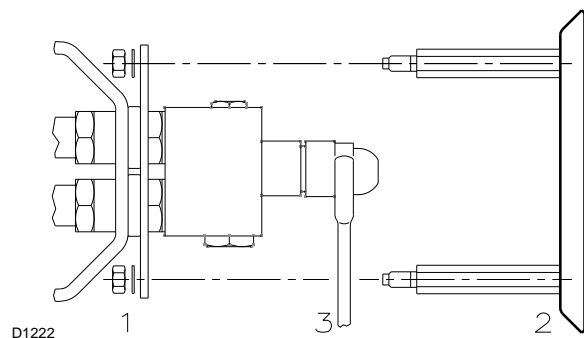

Fig. 14
- remove the nuts 1)(Fig. 14) and the disk 2);
- use spanner 3)(Fig. 14) to change the nozzles.